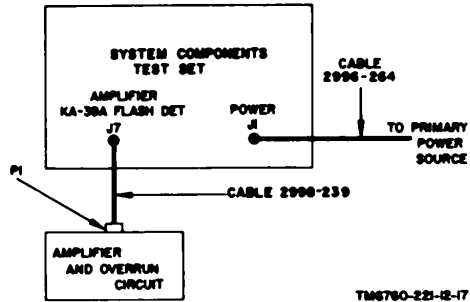

Figure 17. Connection diagram for testing camera amplifier and overrun circuit.
- (2) Disconnect all cables from the camera, system simulator, and system analyzer.
a. *Connections (fig. 17).*
- (1) Connect cable 2998-239 to connector J7 on the system components test set and to connector P1 on the amplifier and overrun circuit of the camera.
- (2) Connect cable 2998-264 to connector J1 on the system components test set and to the primary power source (para 23).
- a. *Connections (fig. 17).*
- (1) Connect cable 2996-264 to connector J1 on the system components test set and to the primary power source (para 23).
- (2) Connect cable 2998-239 to connector J7 on the system components test set and connector P1 on the amplifier and overrun circuit of the camera.